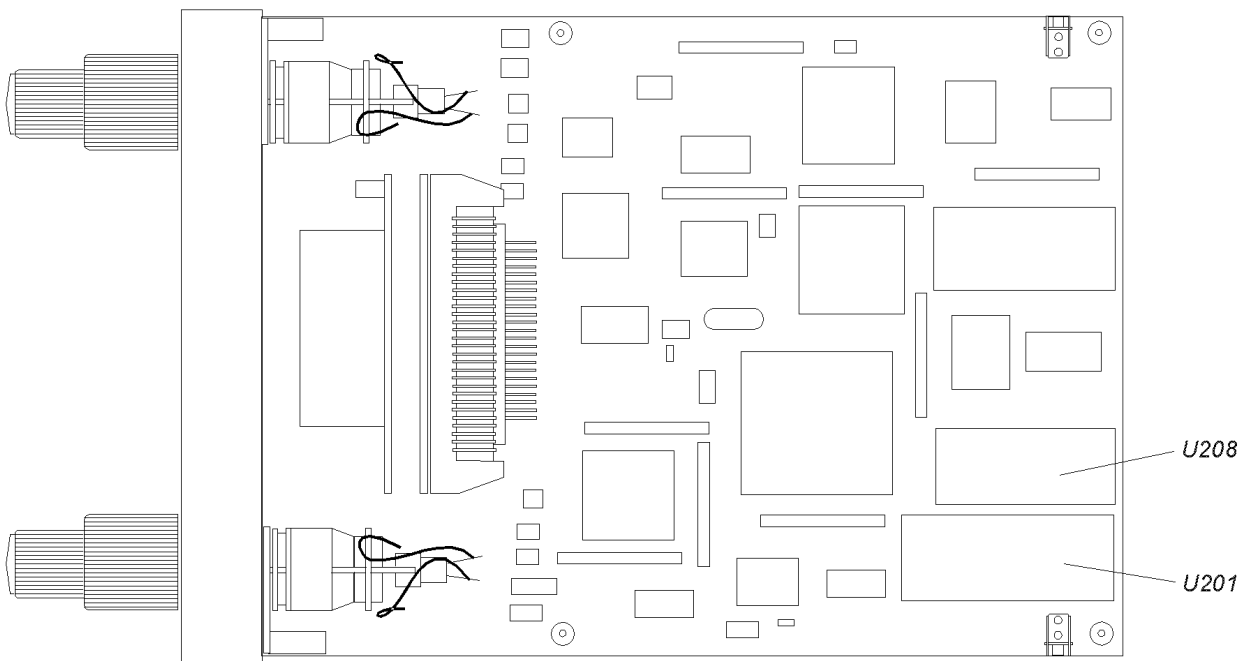

Figure 2. EPROM Locations
2. Remove EPROMS U201, P/N 106-816662-XX, and U208, P/N 106-816664-XX. See Figure 2.